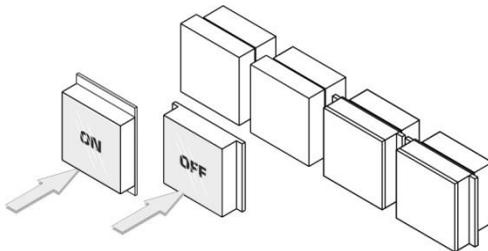

Figure 10: Placing the Button Cap (Left – EU version, Right – US version)
3. Insert the label inside the cap horizontally for the USA version and vertically for the European version, as illustrated in Figure 10.